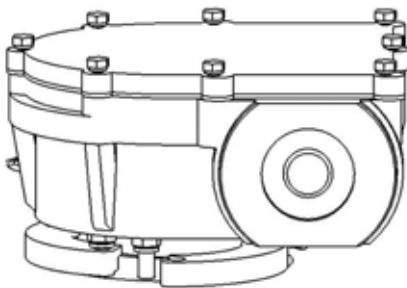

Figure 28 Gear box
- 1) Loosen the pressing plate of the gear box and pull out one end of the board slightly (6 pieces of M8 bolts, 13mm wrench). (Figure 28)